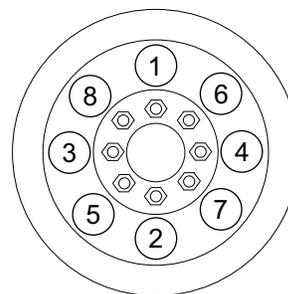

Figure 3-17. Lug Sequence
7. Check all wheel lugs. Tighten or replace any loose or missing lugs. If a tire was removed for axle service or replaced, tighten lugs in the order shown in Figure 3-17 to the following specifications: